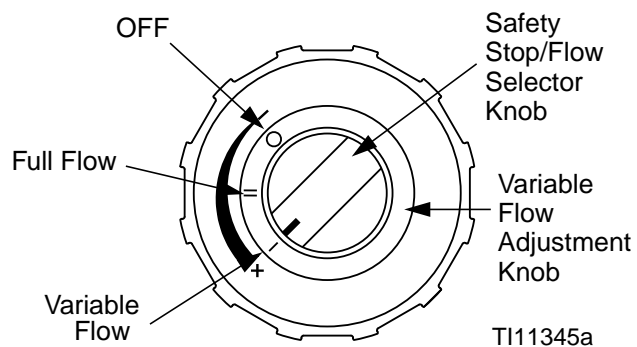

FIG. 27
1. Turn air valve (W) OFF.
2. Turn flow selector knob to variable flow position. See FIG. 27.
To spray a reduced flow pattern, push in and turn flow selector knob to variable flow position. See FIG. 27.
To return to a full flow pattern, push in and turn flow selector knob to full flow position. See FIG. 27.
4. Turn air valve ON, and open fluid valves. Verify that flow selector knob is set to the variable flow position. See FIG. 27.
The variable flow adjustment knob cannot be adjusted when the flow selector knob is in the safety stop position. See FIG. 27.